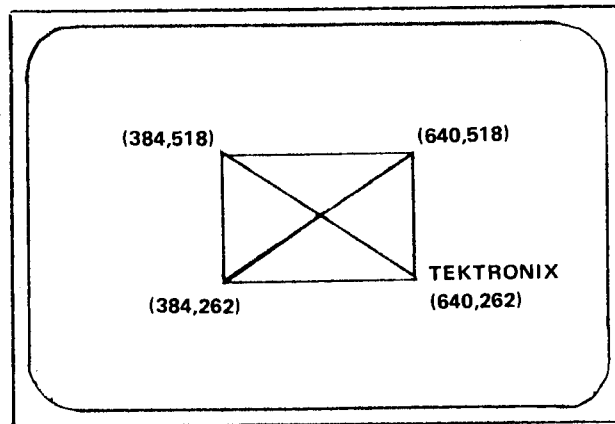

FIGURE 5. SAMPLE DISPLAY. (Coordinate data is not displayed. It is given here for information purposes only.)
7. Verify that the picture shown in Figure 5 is refreshed at the center of the screen.